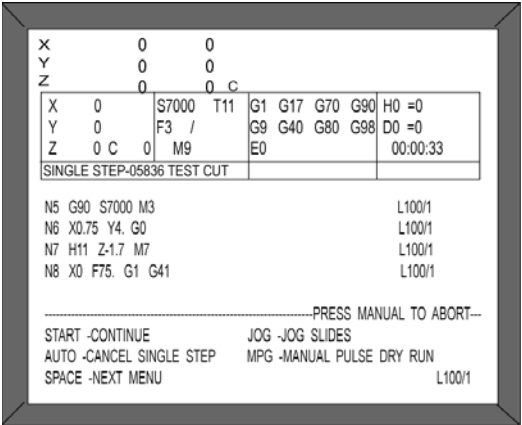

Figure 3-2: Single Step mode.
- 1. From the *Single Step* mode, when the single step message is flashing (See Figure 3-2), press the JOG key to get into the *Jog* mode.